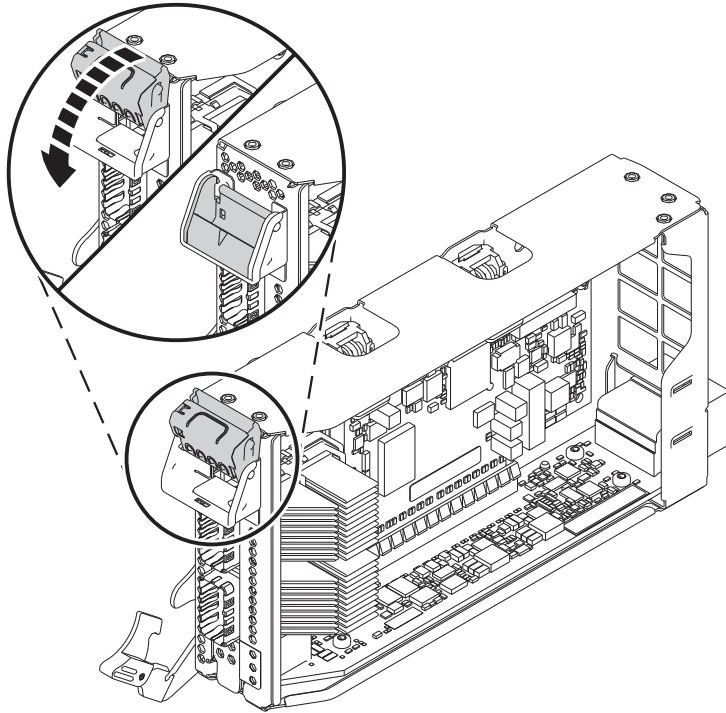

Figure 42. Placing a half-length low-profile adapter in the PCIe adapter cassette
- c. To lock the adapter in place, rotate the tailstock latch as shown in Figure 42 on page 41.